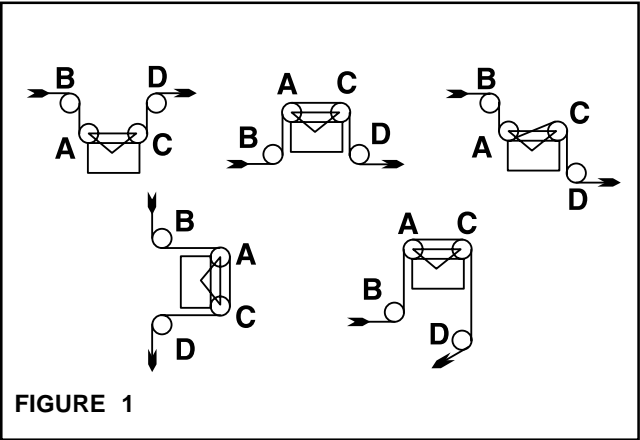

FIGURE 1
1. Position the Web Guide as close as possible to the critical area to which the web is being guided. Any roll between the lead out roll **D** and the critical area will detract from guiding accuracy (See Figure 1).
2. Find the web path to be used (See Figure 1).